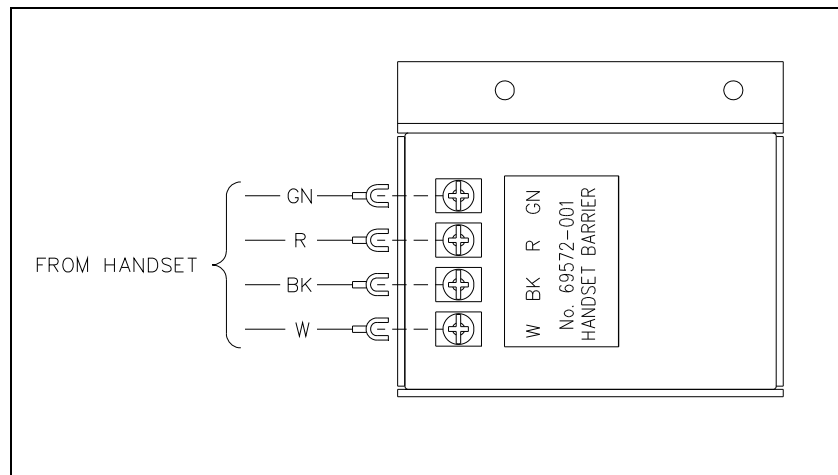

Figure 2. Connection Detail
1. Connect the handset wires to the new IS Barrier assembly. See the connection detail in Figure 2 below.